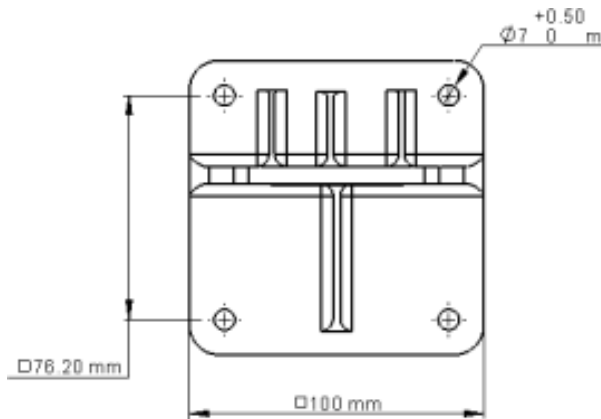

Figure 13 : Tilt Mount Base - Plate View
- a) Mount the tilt mount base (Figure 13) to a solid structure using four suitable fixings through the four 7mm (0.28") diameter holes. Four captive screws with spring washers are provided in the tilt mount.
Use the following steps to connect the detector to the tilt mount, referring to Figure 13: